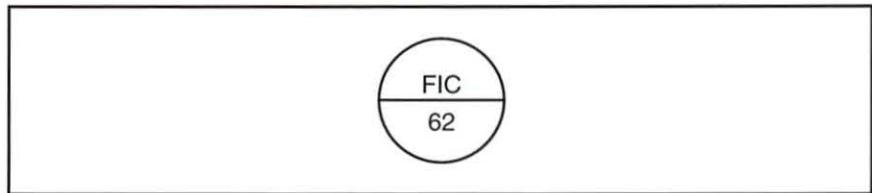

Figure 48. Instrument Tag
6. Determine the measured variable indicated in the instrument tag in figure 48.